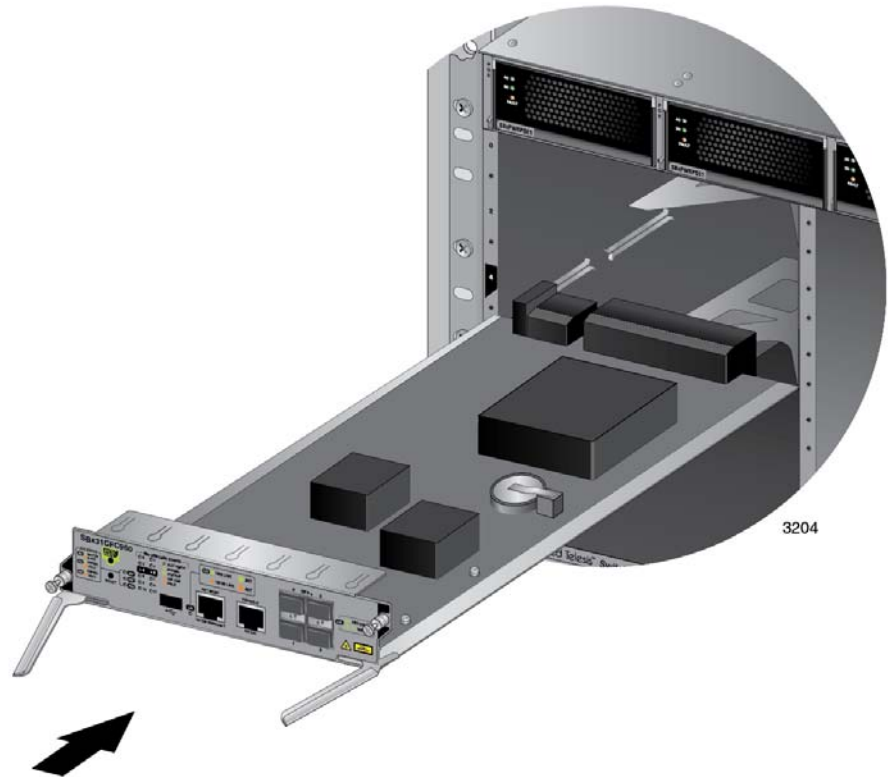

Figure 75. Aligning the AT-SBx31CFC960 Card in the Chassis Slot
6. Align the edges of the AT-SBx31CFC960 Card with the internal chassis card guides in slot 4 or 5 of the AT-SBx3112 Chassis. Figure 75 on page 141 shows the AT-SBx31CFC960 Card aligned in slot 4.